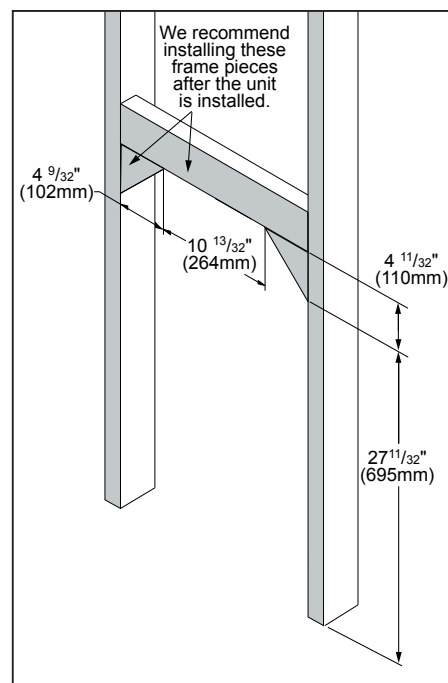

Figure 15. Dimensions for Top Framing the Firebox.
The fireplace can be located along a wall, raised or at floor level, or in a corner. There are specific framing measurements for each situation. The basic opening should have the dimensions shown in Figure 4. Refer to Figure 1 for the placement of the gas and electrical inlets. When the basic framing is done and the unit is installed the three (3) top pieces of the framing should be installed Figure 15.